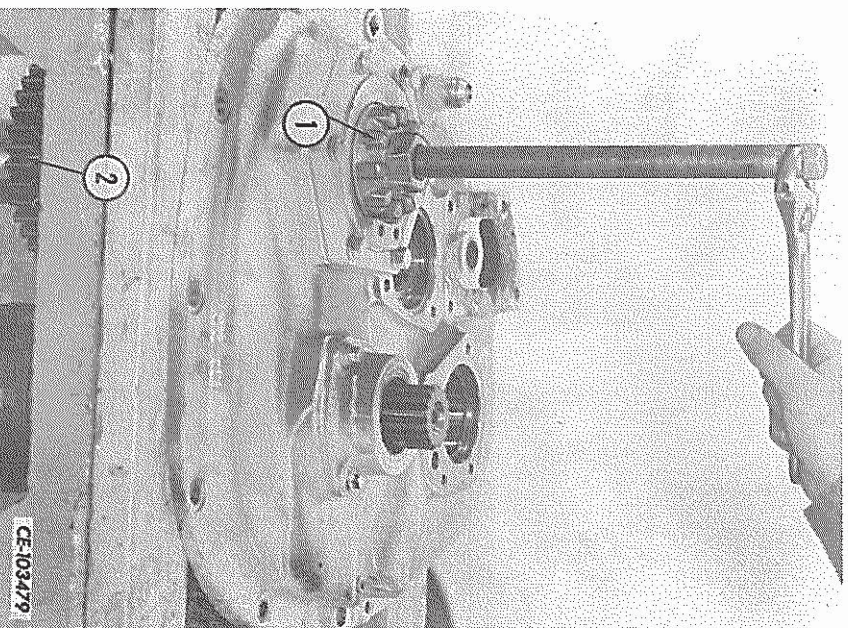

FIG. 29 — Removing the Bevel Pinion Shaft Assembly
19. Place the front cover with the two remaining shafts in the stand or on the bench with the shafts extending down. Screw a standard forcing screw or puller screw into the front bearing retainer (1, Fig. 29) to push the pinion shaft (2) out of the front bearing assembly. Remove the bearing retainer.